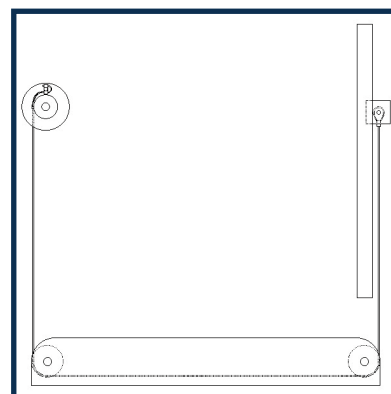

FIGURE 7
- Attach thimble end of stainless cable to cable mounting plate on handrail (L) using hardware provided in Kit #4.
- Torque cable clamp. Pay attention to not over torque and break winch. See Figure 7.